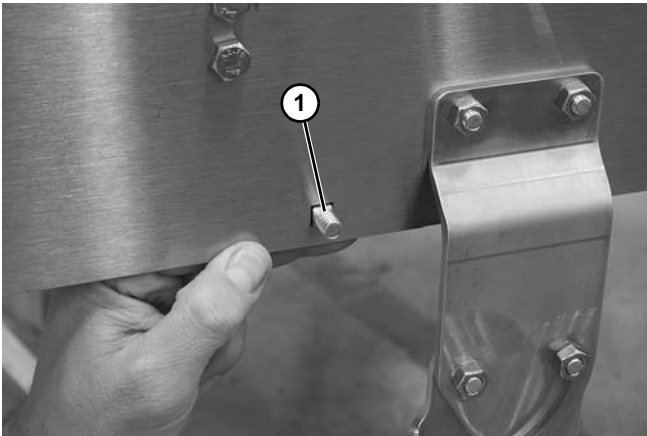

Figure 23
1. Install carriage bolt (Figure 23, item 1) through frame rail.